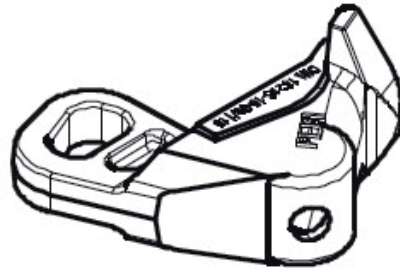

Fig. B4.05
1. Attach Tie Yoke SKZ (1) on both sides to restrain the outside corner pannels assembled ,using a hammer and a tension proof wedge. (Fig. B4.05)
2. Insert threaded Tie rod through SKZ yoke (1), and secure with wingnuts.